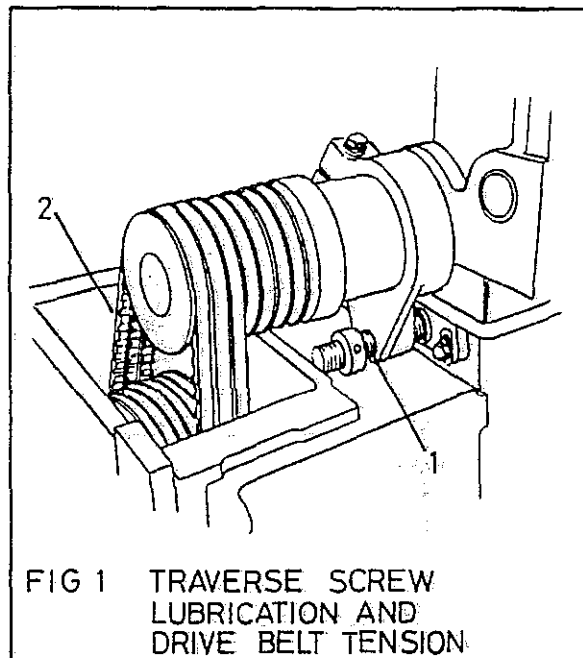

FIG 1 TRAVERSE SCREW LUBRICATION AND DRIVE BELT TENSION.
Three Monthly (Fig 1)
- 2) Remove cover to expose spindle pulley and belts (Fig 1).
- 3) Slacken off motor mounting plate bolts (1).
- 4) Tension belt by slackening the top locknut (2) and turning the bottom locknut (3) in an anticlockwise direction.